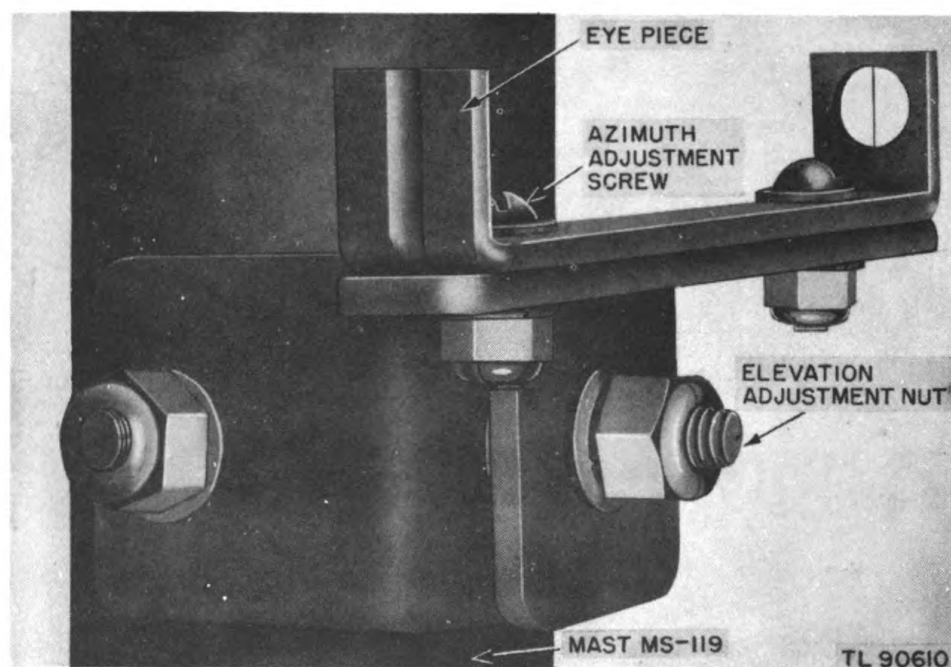

Figure 7. Mast sight.
(2) A canvas cover, Bag BG-179, is furnished to protect the crossarms when not in use.
(3) The four Adcock elements are formed by joining Mast Sections MS-50 with Mast Sections MS-120.
(4) Canvas bag, Roll BG-56-A, is furnished to store and protect the mast sections when not in use.
*d. Mast Sight.* A short metal strip, bent up at each end approximately  $\frac{3}{4}$  of an inch, forms a sight for lining up the beacon array (fig. 7). One end of the bent-up portion contains a slit through which the operator sights, the other end contains a hole with a thin metal strip or hairline running through the center.